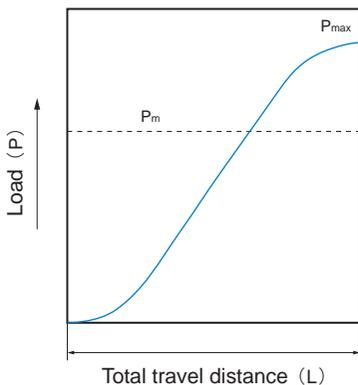

Fig.20 Variation like Sine curve's load (1)
• When average load variation curve shown as the Fig.20. Average load can be calculated by using equation (14).